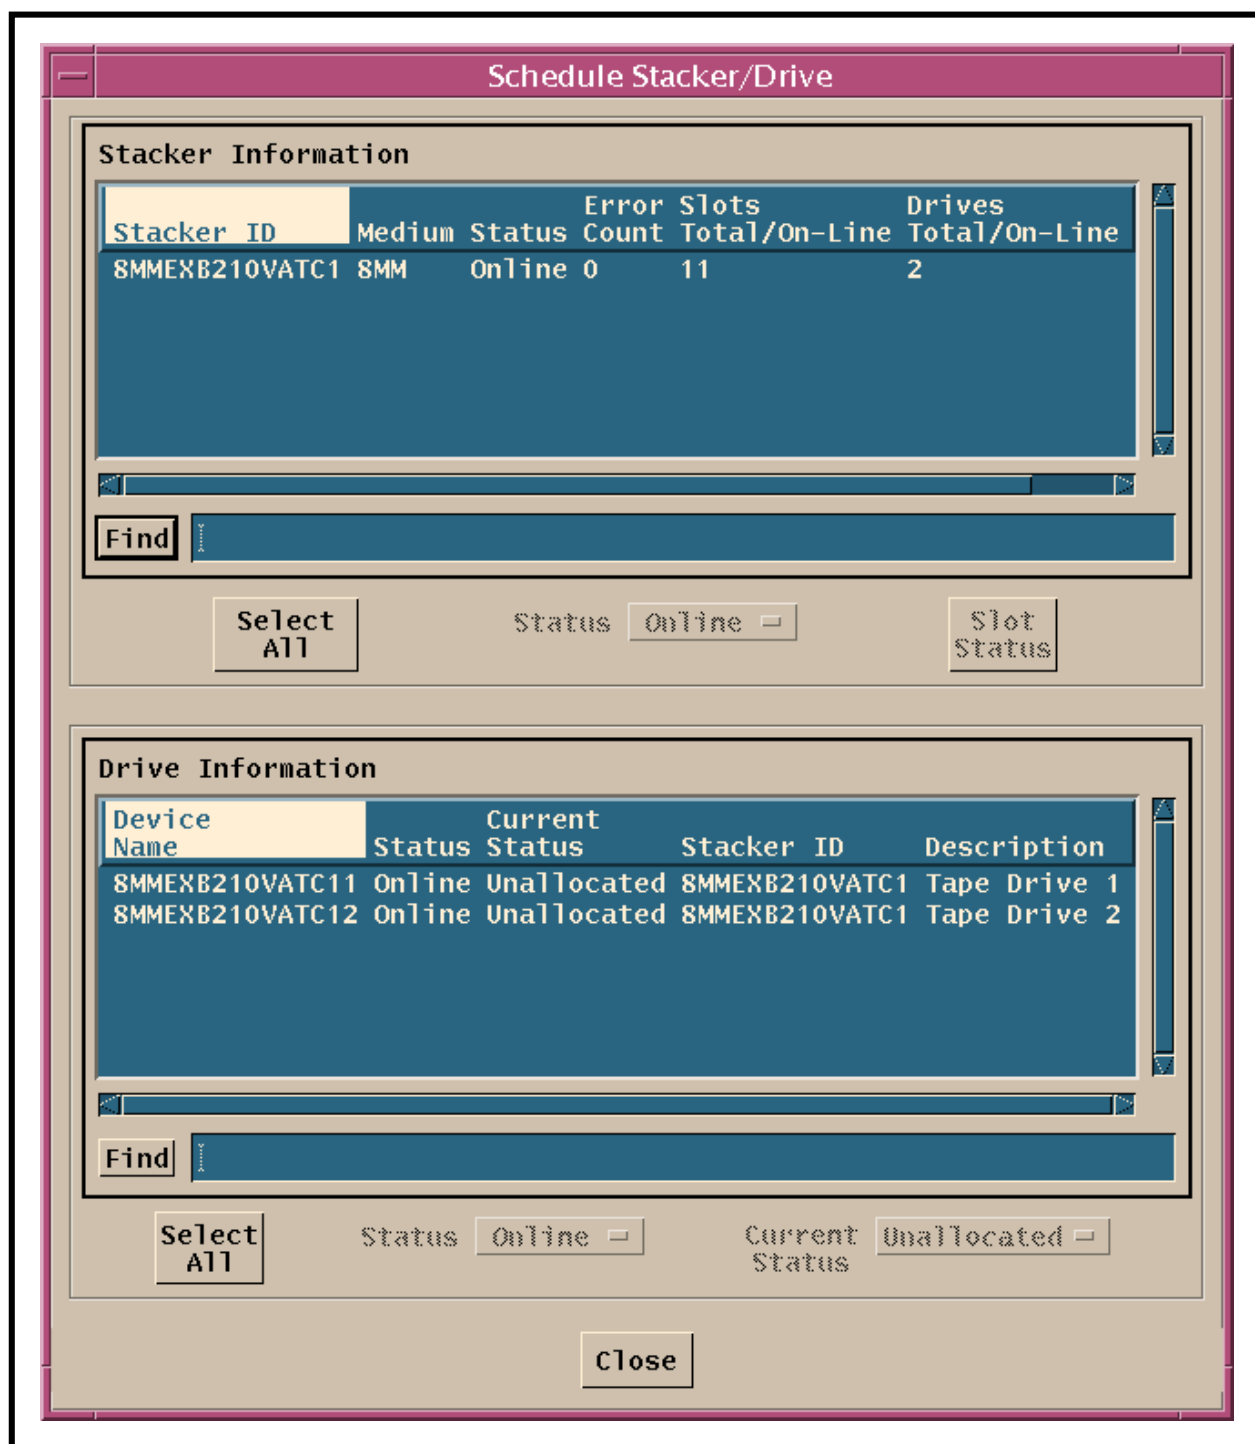

Figure 24. Schedule Stacker/Drive Window (Storage Management Control GUI)
- The **Schedule Stacker/Drive** window (Figure 24) is displayed.
- 5 Observe the information displayed in the **Stacker Information** window near the top of the **Schedule Stacker/Drive** window (Figure 24).
- 7 Observe the information displayed in the **Drive Information** window near the bottom of the **Schedule Stacker/Drive** window (Figure 24).